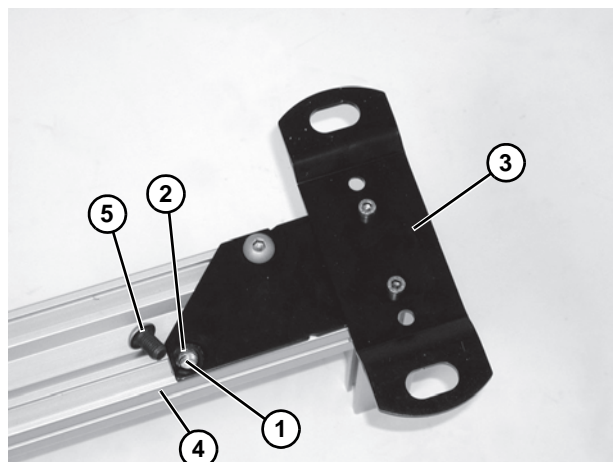

Figure 4
4. Align hex nuts (**Figure 4, item 1**) with leg holes (**Figure 4, item 2**). Attach leg assembly (**Figure 4, item 3**) to cross tube (**Figure 4, item 4**) with button screws (**Figure 4, item 5**). Do not tighten screws.